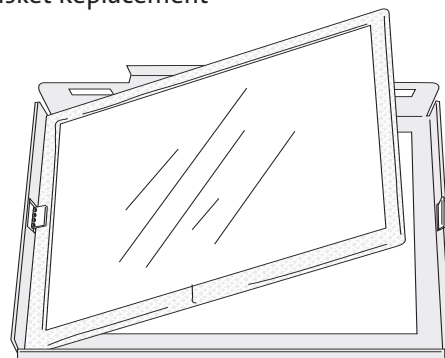

Figure 31. Use small pliers to pry up the two retainer tabs.
3. The glass panel is held in place by four compression clips. Use a screwdriver or small pliers to pry these up off the edge of the glass retaining walls. See fig. 31.